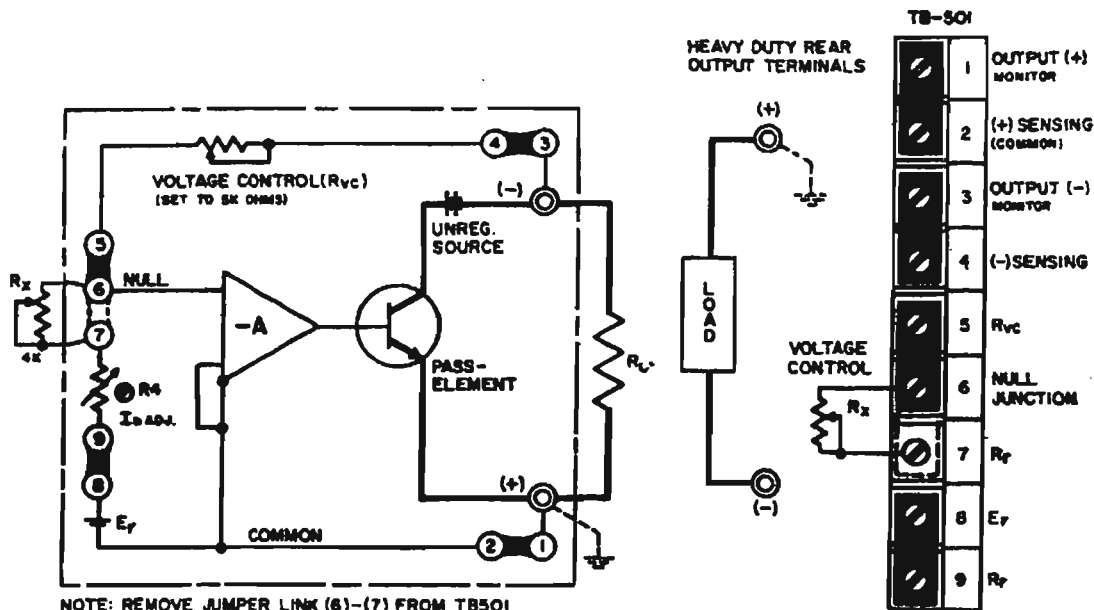

FIG. 3-7 REMOTE CONDUCTANCE PROGRAMMING
**3-24 PROCEDURE (Refer to FIG. 3-7)**
A 4K ohm, WW, low T.C. potentiometer, connected as shown in FIG. 3-7, will change the output voltage from 3 to 5 volts when varied from zero to 4K ohms.